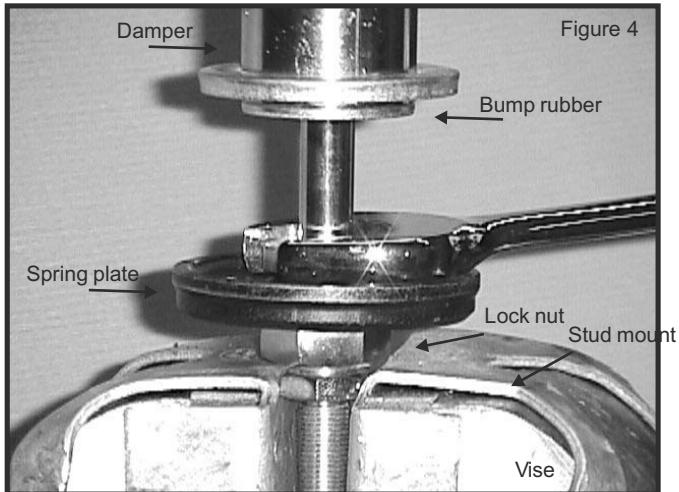

Figure 4
6. Put a drop of loctite on the damper threads and screw it into the adjustable mount, making sure it seats against the end of the mount (see figure 4). Torque the damper shaft to 25 to 30 ft./lbs. Rotate the spring plate until it bottoms against the damper shaft and tighten the lock nut. This is the lowest preload setting (lightest).